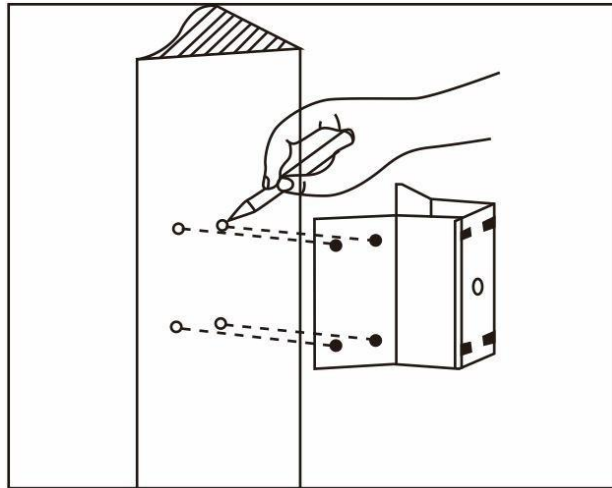

Fig 12
a. As shown in fig 12, with the installation holes in the corner mounted attachment as pattern, draw punched locations on the wall with an angle of 90° and punch to install expansion bolt.